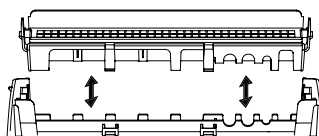

fig 5.
1. Press in with index finger on one end release clip while pressing in with thumb on the inner release clip repeat on the other and lifting the wall away from the unit (fig 5.)